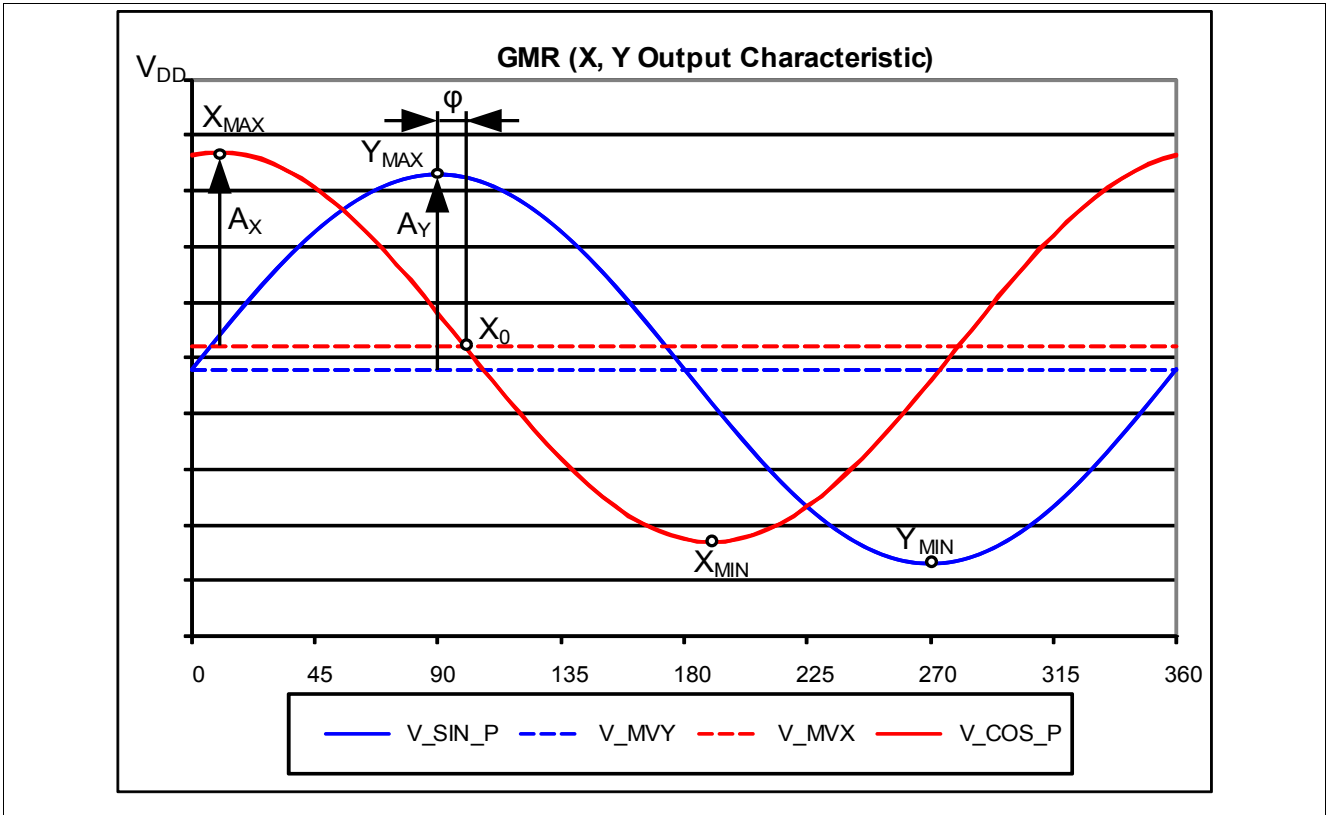

Figure 12 GMR sensor single-ended output signals
All parameters apply over the full operating range, unless otherwise specified. The parameters in Table 6 refer to single pin output and Table 7 to differential output. For variable names please refer to Figure 12 “GMR sensor single-ended output signals” on Page 23 and Figure 14 “GMR differential output of ideal cosine” on Page 24.
1) Vmax and Vmin correspond to the voltage levels at Xmax or Ymax and Xmin or Ymin respectively as shown in Figure 12, Figure 13.